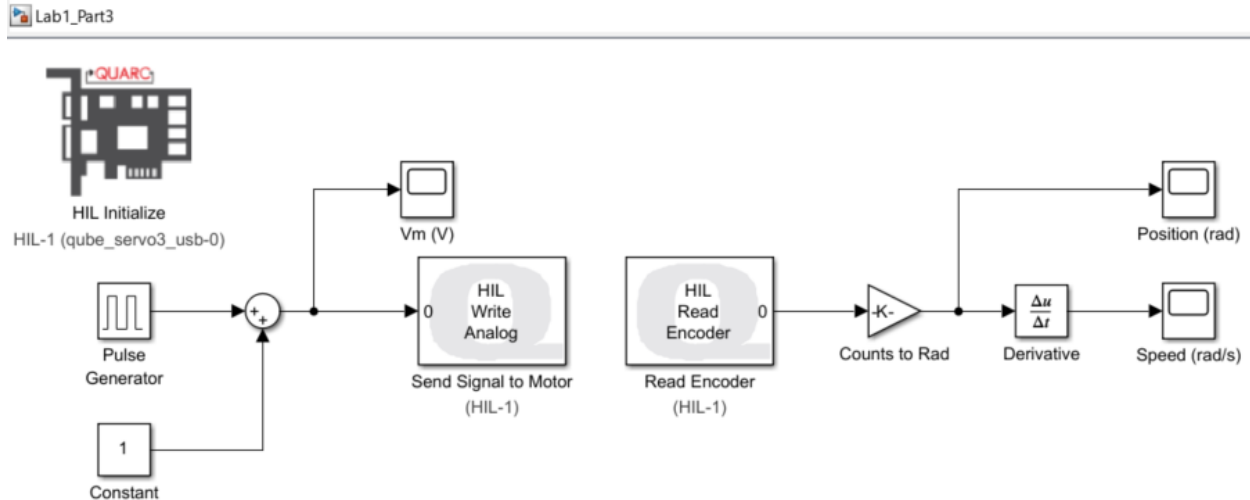

Figure 11: Target Simulink Model for Part 3.
3. In this part, our goal is to develop the target model shown in Figure 11. The next two steps explain what you are required to do.
- (iv) Connect the above three block together and then to the *HIL Write Analog* block as shown in Figure 11. This will send the required square wave to the motor.
- (iii) Connect the above two blocks together and with the *HIL Read Encoder* block as shown in Figure 11. Also connect the two scopes at the output side as shown in Figure 11. These scopes will let us view the angular position and angular speed.
7. By now, your model should look like the one shown in Figure 11. Save your work. Turn ON the Qube-Servo 3 motor, *build* your Simulink model and then press the *Monitor & Tune* button to deploy it on to the Qube-Servo 3.